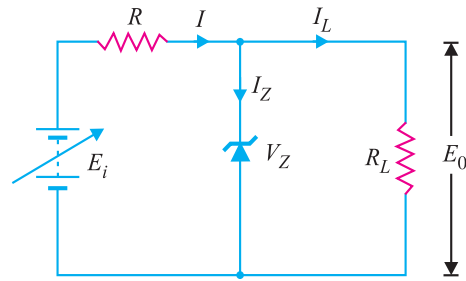

Fig. 6.60
3. Fixed R_L and Variable E_i . This case is shown in Fig. 6.60. Here the load resistance R_L is fixed while the applied voltage (E_i) changes. Note that there is a definite range of E_i values that will ensure that zener diode is in the “on” state. Let us calculate that range of values.